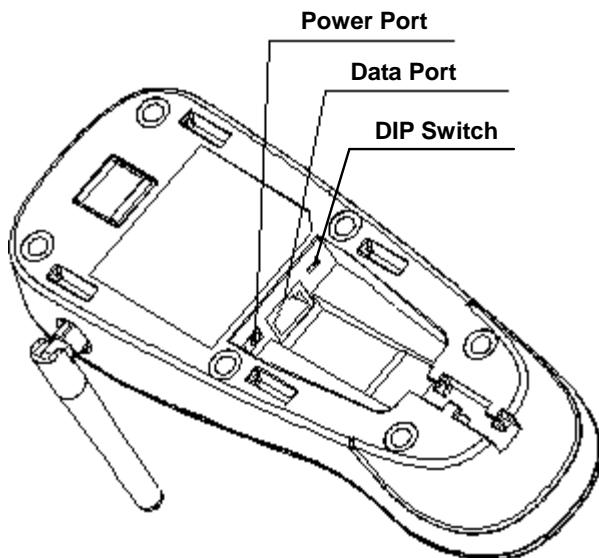

Fig. 1-3
1. Plug the RJ45 connector into the data port (see Fig.1-3) on the cradle.
3. Plug the supplied power adapter into the power port (see Fig.1-3) on the cradle.